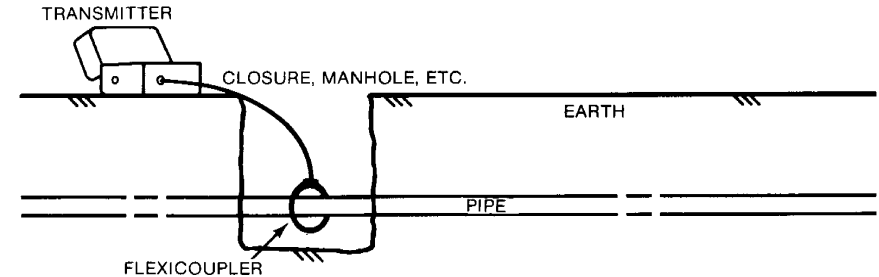

Figure 2-4.
4. Plug the jack end of the flexicoupler cord into the TRACING TONE jack receptacle on the transmitter (see Figure 2-4).